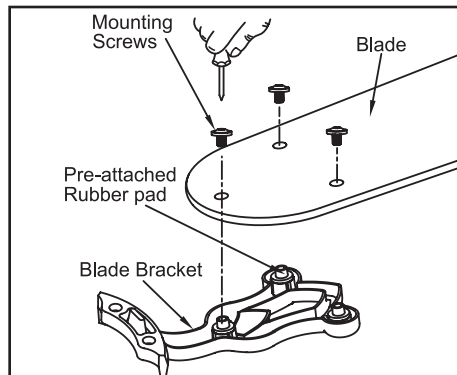

Figure 9
1. Attach blade to blade bracket using the screws supplied (Figure 9). Please note that the rubber washers are pre-attached to the blade bracket. Start a screw into the bracket. Repeat for the two remaining screws.